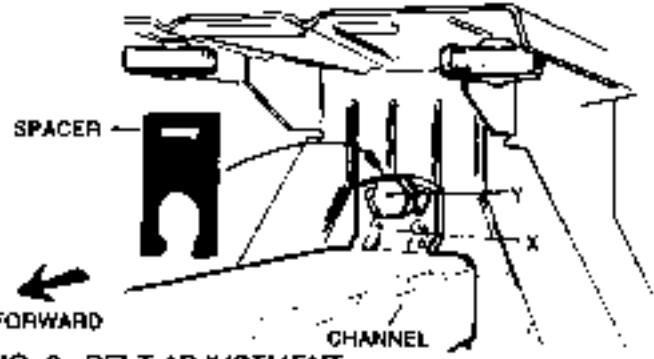

FIG. 8 - BELT ADJUSTMENT
With the mower deck in the #5 height position and the blade in the ON position, check the distance between the inside surfaces of the belt as shown in FIG. 9. The belt tension is adjusted by changing the "distance" between the front axle and the rear case. Remove the shoulder bolt (Y) (with the two metal spacers) from the main channel tab (X) and pull the front assembly FORWARD, increasing the belt tension until the correct amount is achieved. Then remove one or more spacers (as needed) from the hardware bag and align the spacer(s) behind main channel tab (X) and over the tube below it. Insert the shoulder bolt (without the two metal spacers) through the matching holes in spacer(s) and tab (X), and screw it into the front of the rear case - securely tighten! Refer to FIG. 8.